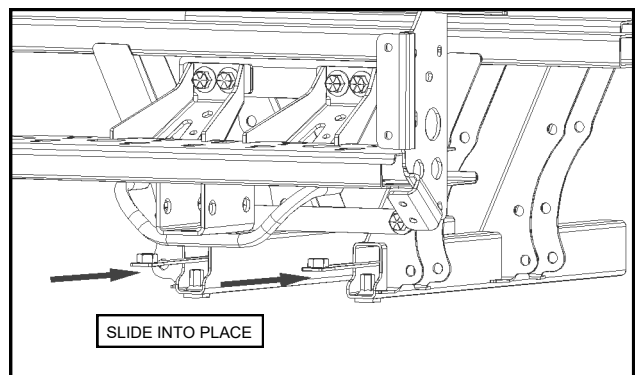

Fig. 2.2 (Anchor Strips)
- 2.2 Insert both anchor strips into the vehicle's frame tube per Fig. 2.2. (Orient w/ nuts up as shown)